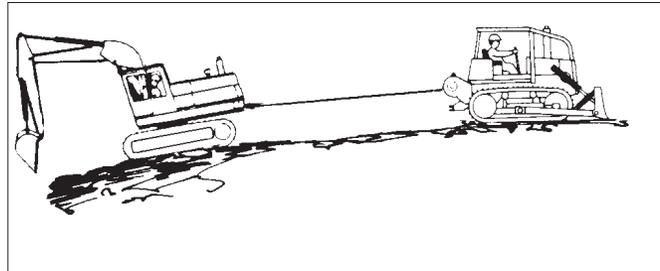

Figure 17 - Moving a Disabled Vehicle (Step B)
B. A tractor or skidder equipped with a winch can be used to pull another vehicle from mud or other areas where it cannot move using only the drive wheels or tracks. See Figure 17. Use the following procedure: